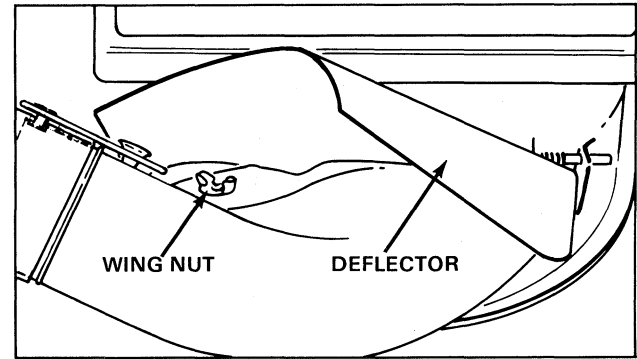

Figure 4
4. Slide chute assembly under deflector inserting front of chute into mower housing V-bracket and rear of chute onto mounting pin (Fig.4). Secure chute to mower housing with wing nut.